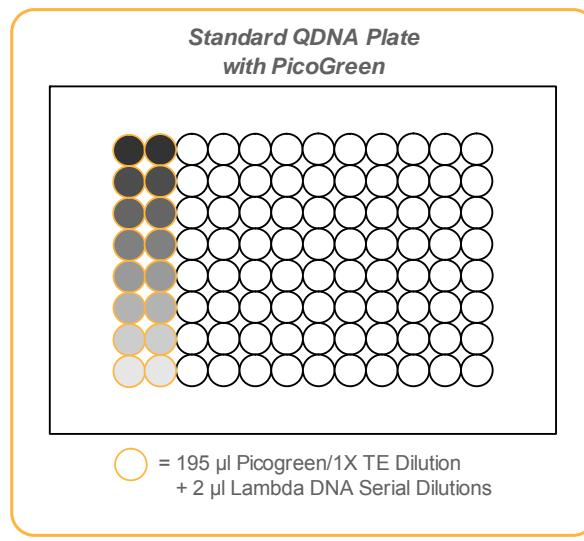

Figure 82 Standard QDNA Plate with PicoGreen
4. Using an 8-channel pipette, transfer 195 μ l PicoGreen/1X TE dilution into each well of columns 1 and 2 of the Standard QDNA Fluotrac plate (Figure 82).